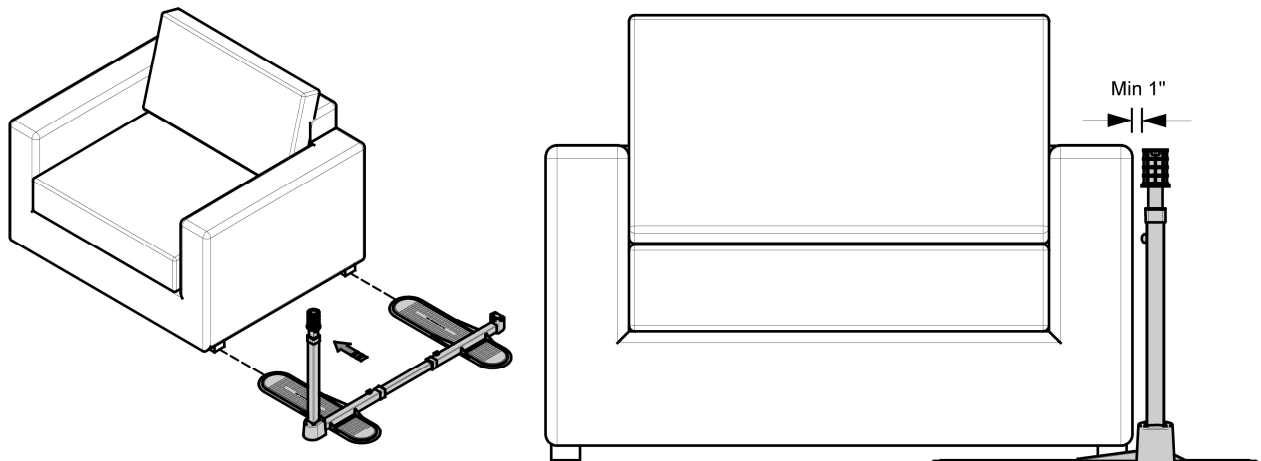

FIGURE 6
- Place unit under furniture leaving at least 1 inch (25mm) between furniture side and upright. Ensure that furniture legs are on top of BOTH footpads as shown in *FIGURE 6*.